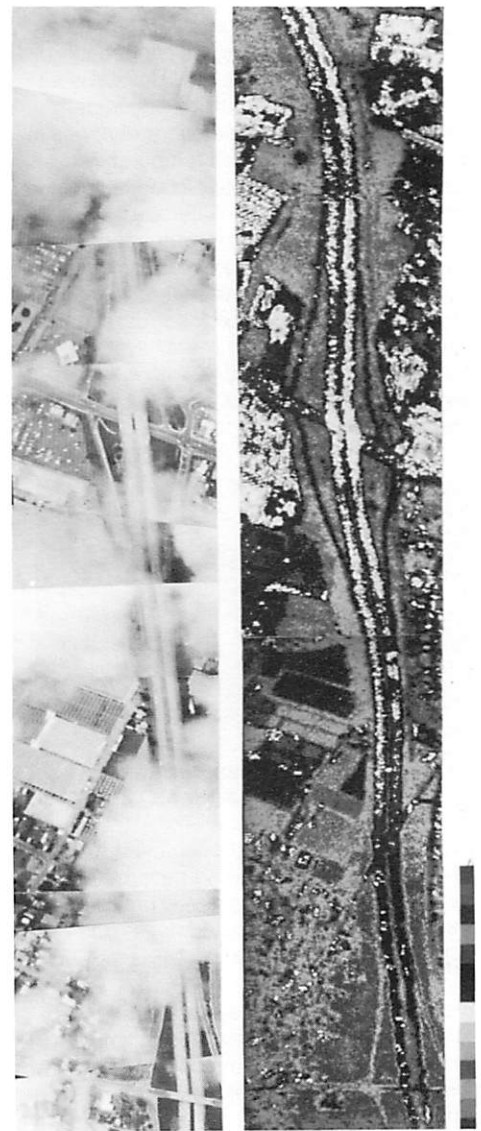

FIG. 2. VIDEO AND MILLIMETER-WAVE IMAGES OF A FREEWAY SCENE SOUTH OF CARLSBAD, CA, ON SEPT. 26, 1985.^①
Video and millimeter-wave radiometric images of a freeway scene south of Carlsbad, California taken by a team from the Jet Propulsion Laboratory, Pasadena, California, from a helicopter with a scanning 3-mm radiometric system are shown in Figure 2. During this rainy day, the sensor was flown over a layer of broken clouds, as seen in the pictures from the video. The moderate-resolution (0.5°) radiometric images of the ground show that the sensor can be used to produce images through clouds, smoke, and dust when visual and IR sensors are not useable. The 15-level color scale is from $250^\circ K$ (dark blue) to $300^\circ K$ (red).^①